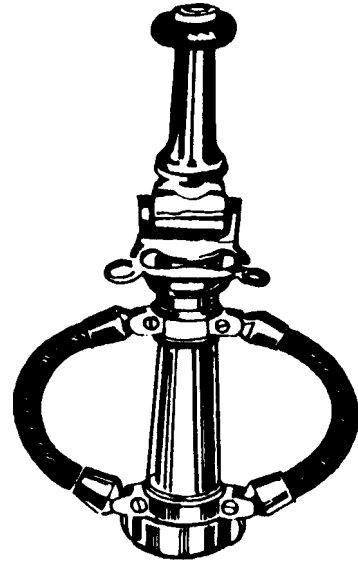

Figure 2-23. Solid stream nozzle.
b. Solid Stream Nozzle. The solid stream nozzle (fig. 2-23) normally consists of an open tip, a controlling shutoff, and a playpipe with handles to make controlling the nozzle easier. The volume of water discharged at a given pressure depends on the size of the tip. Tips are usually interchangeable to obtain different volume discharges. This is an aid if the water supply will not provide an effective stream with the larger size tips. The purpose of a solid stream nozzle is to project water so that it will travel a distance or will penetrate through loose or porous material. Effectiveness of the nozzle depends on a smooth surface in the tip, so care must be taken not to drop or otherwise dent or damage the tip. Design of the solid stream nozzle produces a thrust backward on the nozzle and hose when it is used. It is important to be prepared for this reaction when using this type of nozzle.